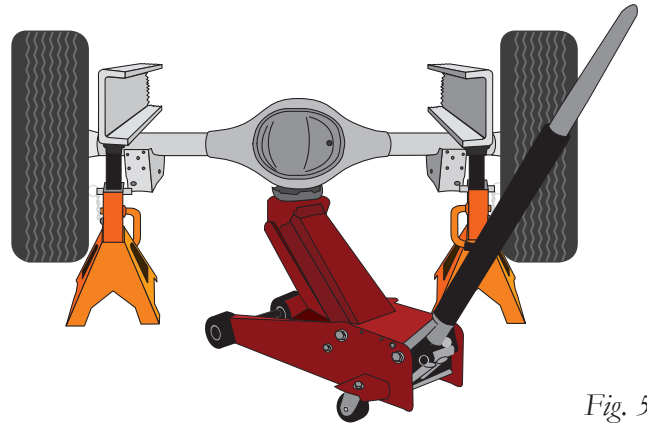

Fig. 5
1. Lift the vehicle and support the frame with safety stands. Drop the axle down low enough to later set the air springs into position between the frame and axle (Fig. 5).